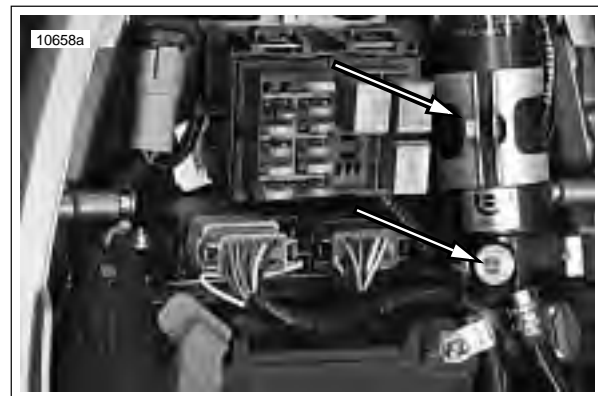

Figure 2-94. Rear Shock Absorber Remote Reservoir Clamp (XB12S shown) and Compression Dial
**For XB9SX, XB12S, and XB12Scg:** Verify compression dial is facing up. See Figure 2-94.